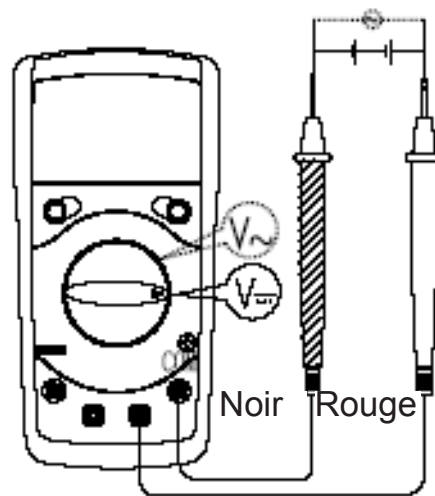

figure 3
A. MESURE DE TENSION CC (VOIR FIGURE 3)